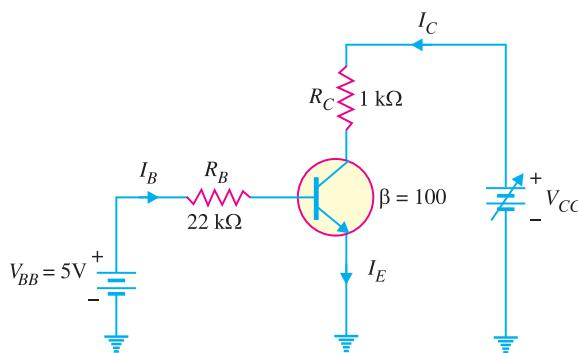

Fig. 8.63
**Example 8.41.** The transistor in Fig. 8.63 has the following maximum ratings :